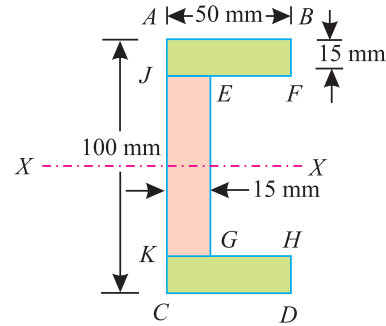

Fig. 6.11.
**Solution.** As the section is symmetrical about X-X axis, therefore its centre of gravity will lie on this axis. Now split up the whole section into three rectangles ABFJ, EGKJ and CDHK as shown in Fig. 6.11.